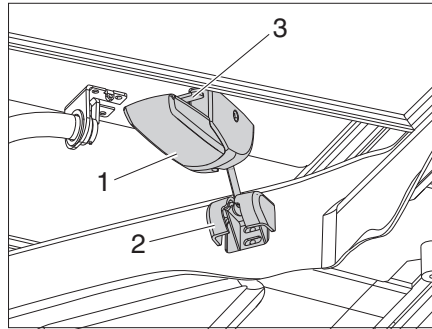

Fig. 44 Releasing the locking mechanisms
- Push up the locking lever (Fig. 44,3) and at the same time pull down the lock (Fig. 44,1) on the left and right.
- Remove the pin (Fig. 44,2) from the holder.